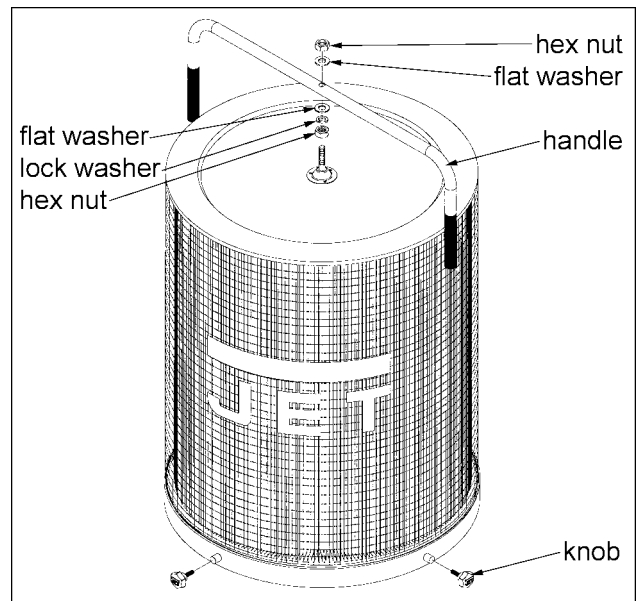

Fig. 9
- Mount the handle onto the canister filter with two M10 hex nuts, two M10 flat washers, and a M10 lock washer, see Figure 9.